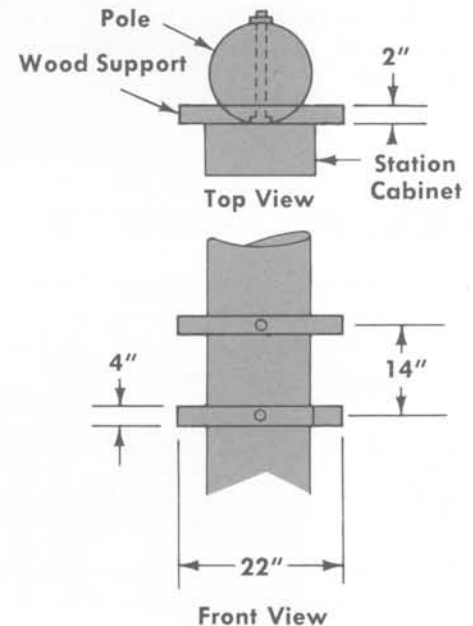

Figure 5 — Installation to a Single Pole
1. Cut horizontal mounting surfaces for two 2" by 4" wood supports on pole. Cut should be about 1" deep to allow outside surface of wood support to extend out from curvature of pole (see Figure 5).